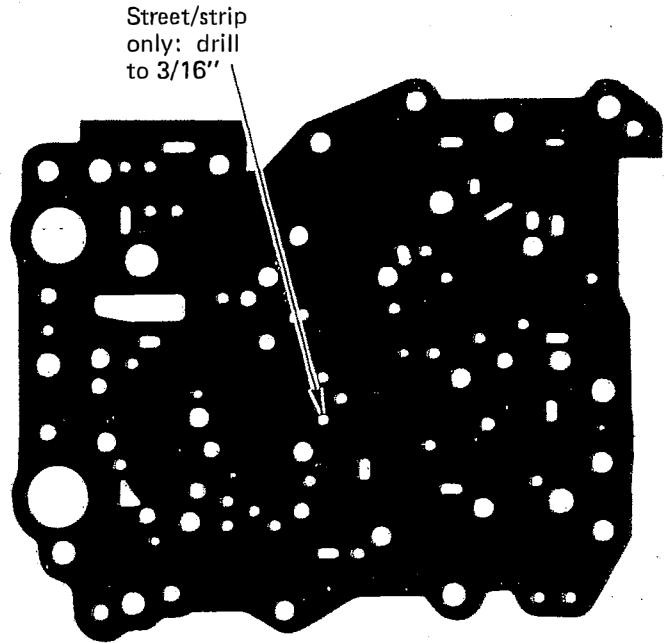

FIGURE 10
**Street/Strip:** Use the 3/16" drill supplied with the kit and drill out the hole in the B&M plate as shown in Figure 10. Deburr the hole with a file or sandpaper after drilling.